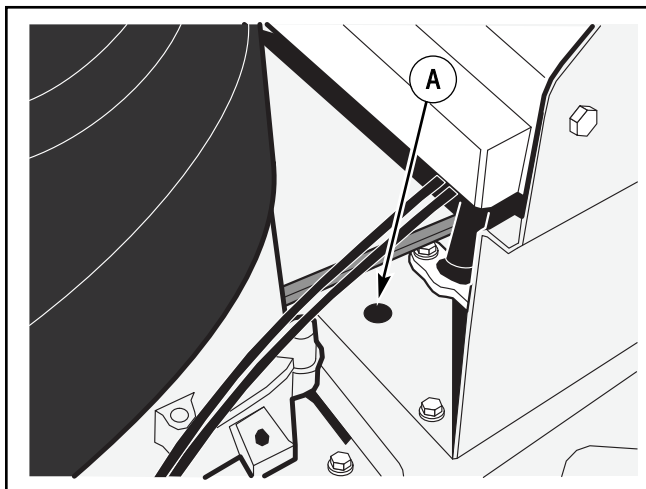

Figure 41: Alignment hole
1. Turn the steering wheel so that the front wheels are pointing straight forward. Align the hole in the sector gear with the hole in the steering plate (see Figure 41).